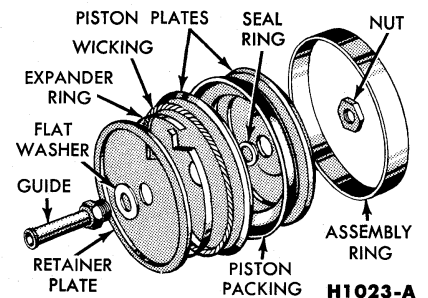

FIG. 34—Disassembled Vacuum Piston—9½-Inch Booster
(b). Clamp the hexagonal section of the piston guide in a vise. Remove the vacuum piston retaining nut, and disassemble the vacuum piston from the push rod (Fig. 34). Remove the guide, seal ring, and flat washer.
7. Fabricate a vacuum piston assembly ring by cutting a 1-inch section from an old cylinder shell of correct size. Place the assembly ring (Figs. 34 and 36) on the bench and assemble the vacuum piston parts in the assembly ring, installing the larger diameter piston plate with the chamfered side of the hole up, the leather piston packing with the lip of the packing up on a 6¾-inch unit and down on a 9½-inch unit, the seal ring, and the small diameter piston plate with the chamfered side of the hole down.
(e). With the assembly ring still in position over the vacuum piston, turn the vacuum piston and assembly ring upside down, and assemble them onto the guide. To prevent damage to the seal ring, remove the larger diameter piston plate while guiding the seal ring over the threads (Fig. 34).